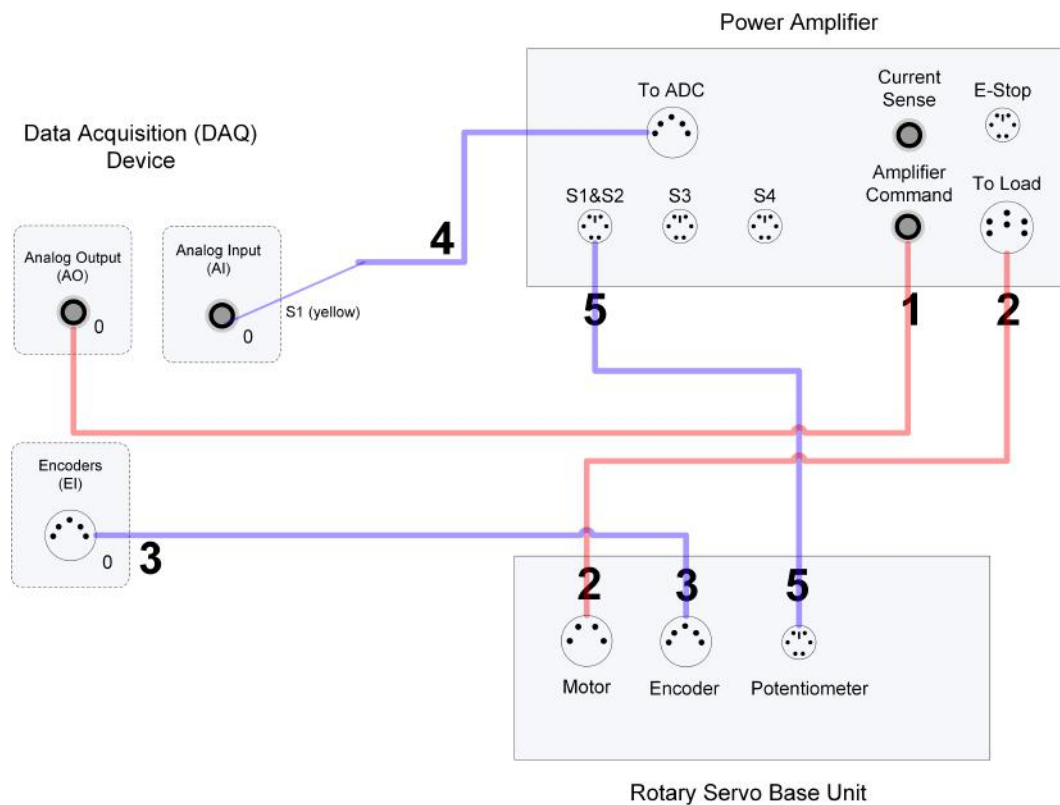

Figure 5.1: Connecting the Rotary Servo Base Unit to a DAQ and Amplifier
This section describes the connections used to connect the Rotary Servo Base Unit plant to a data acquisition device and a power amplifier. This includes both the encoder and potentiometer sensors. The connections are summarized in Table 5.2, and pictured in Figure 5.1. Connection details are given below.
Note: The wiring diagram shown in Figure 5.1 is using a generic data acquisition device. The same connections can be applied for any data acquisition system that has 1x analog input, 1x analog output, and 1x encoder input.
3. Connect one end of the 2xRCA to 2xRCA cable from the Analog Output Channel #0 on the data acquisition device to the *Amplifier Command* connector on the amplifier, i.e. use both white or both red RCA connectors. See cable #1 shown in Figure 5.1.
4. Connect the 4-pin-stereo-DIN to 6-pin-stereo-DIN that is labeled from *To Load* on the amplifier to the *Motor* connector on the Rotary Servo Base Unit. See connection #2 shown in Figure 5.1.
5. Connect the 5-pin-stereo-DIN to 5-pin-stereo-DIN cable from the *Encoder* connector on the Rotary Servo Base Unit panel to Encoder Input # 0 on the data acquisition device, as depicted by connection #3 in Figure 5.1.
6. Connect the *To ADC* socket on the amplifier to Analog Inputs #0 on the data acquisition device using the 5-pin-DIN to 4xRCA cable, as illustrated in Figure 5.1. The RCA side of the cable is labeled with the channels: yellow is S1, white is S2, red is S3, and black is S4. The yellow S1 connector goes to Analog Input Channel #0.
7. Connect the *Potentiometer* connector on the Rotary Servo Base Unit to the *S1 & S2* socket on the Rotary Servo Base Unit using the 6-pin-mini-DIN to 6-pin-mini-DIN cable. This connection is labeled #5 in Figure 5.1. It carries the potentiometer (S1) measurement.